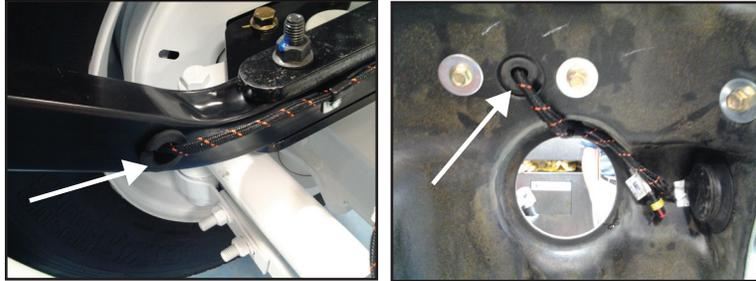

Figure 7: Use rubber grommets where the wire harness enters and exits the fender mount tube.
7. Route the wire harness using any existing hardware and the provided clamps and other new hardware as needed to secure the harness (see Figures 7 and 8 for more information).
- a. Use a rubber grommet where the wire harness enters and exits the fender mount tube (see Figure 7).